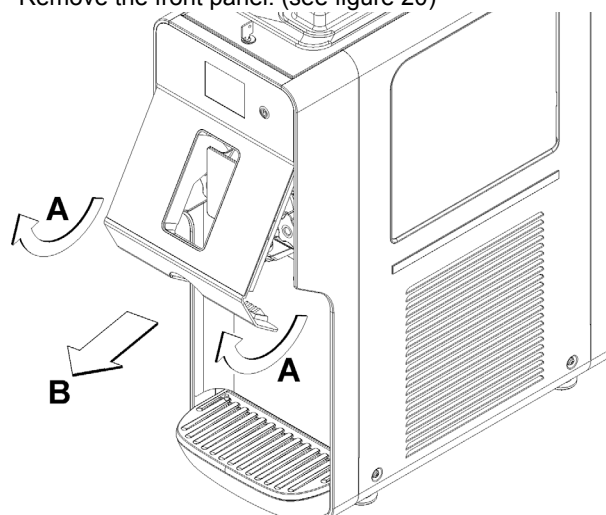

figure 20
- 5 Remove the front panel. (see figure 20)
- 3 Reassemble the tap assembly in the reverse order to that illustrated in Figure 20 and reposition it in its seat.